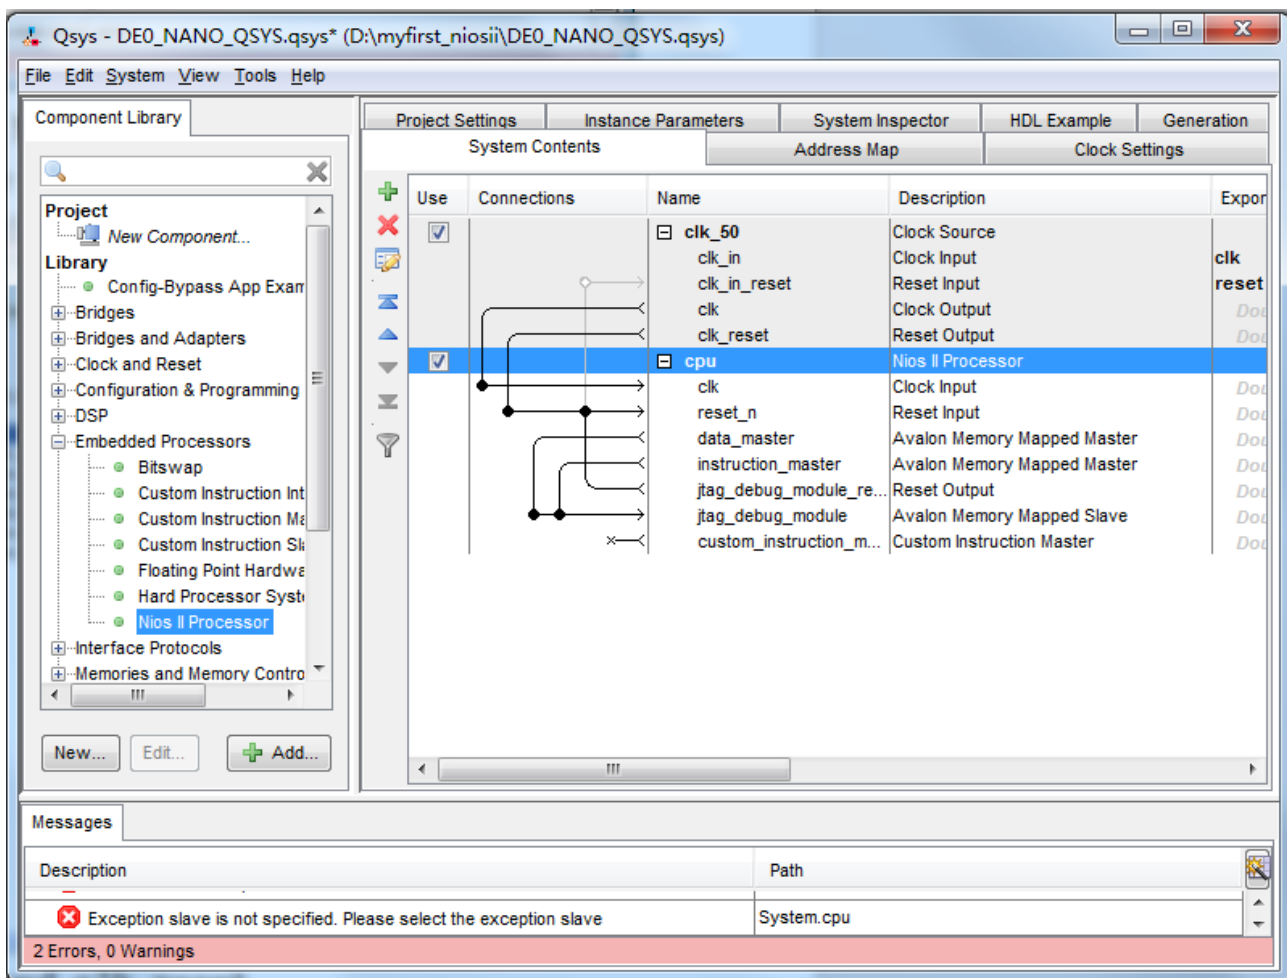

Figure 1-20 Connect the clk and clk\_reset
11. Connect the clk and clk\_reset as shown in **Figure 1-20**. (clicking the hollow dots on the connection line. The dots become solid indicating the ports are connected.)